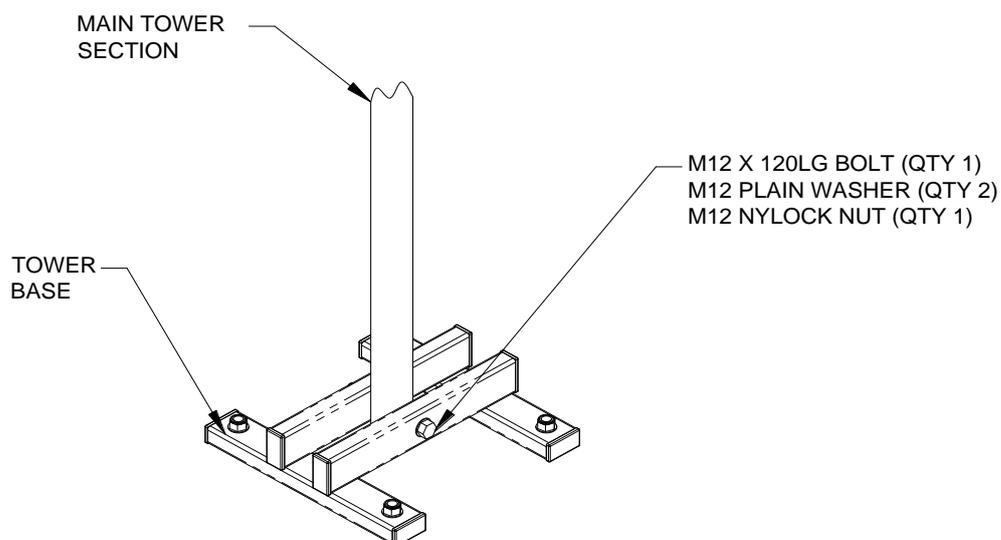

Fig 7: Attached the main tower section to the tower base
8. **Attach the Main Tower Section** - With the appropriate holes drilled in the main tower section, and the tower base firmly fixed in position, mate the two items together. Move the main tower section over to the tower base. Insert the end of the tube with the 13mm hole into the base and secure it with the M12 X 120 long bolt. Use 19mm A/F spanners to firmly tighten the bolt - see fig 7. The main tower section can now be pivoted to rest upon the ground to carry out the remaining assembly stages. It is recommended that the top end of the main tower section is lifted slightly above the ground by placing it on the tower kit packaging (this will make the next assembly stages easier to complete)